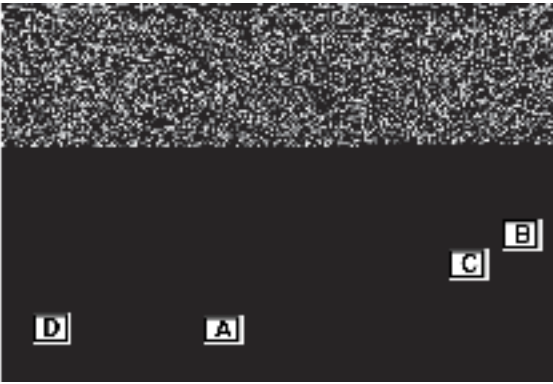

Fig. 33
Attach RED test lead clip (A) to point (B) of the WHITE wire (C), FIG.33. (It may be necessary to pierce wire with a pin as shown.)